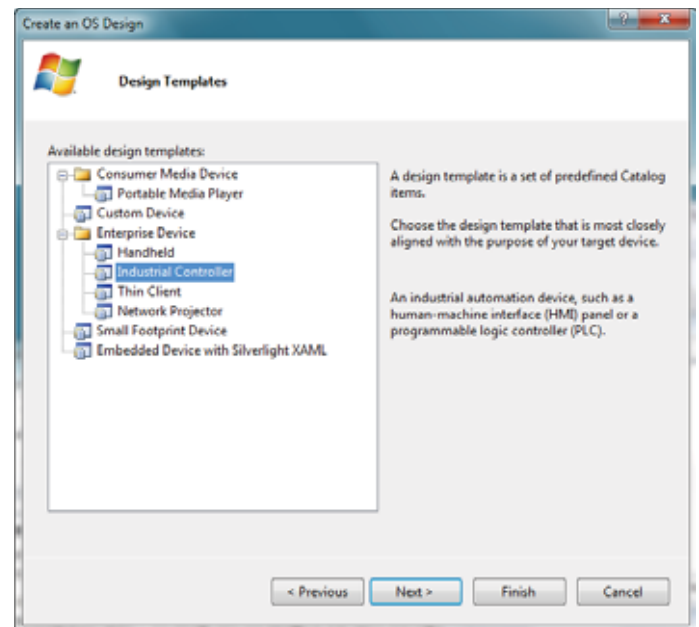

Figure 1 – OS Design Wizard
- Create a new OS design – With help from the OS Design Wizard, provided as part of the Platform Builder, this is a simple and straight-forward process. One of the OS Design Wizard screens is shown in Figure 1.